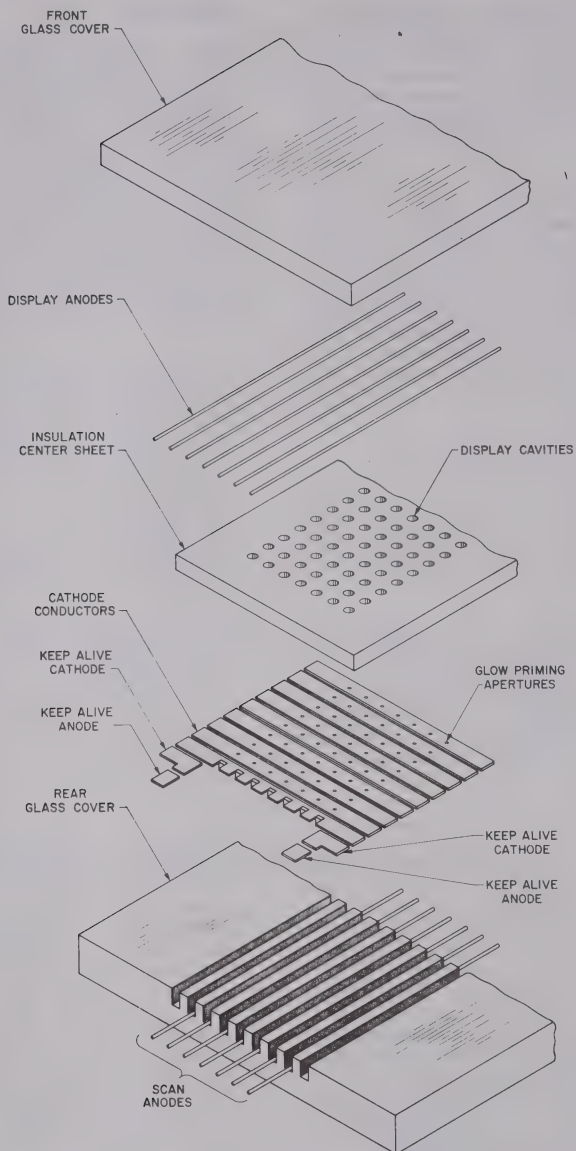

Figure 1.
Figure 1 is an exploded view of the left-hand section of a SELF-SCAN panel display. The panel can be thought of as having three basic sections: (1) The "glow scan" section which consists of the scan anodes and the rear side of the cathode strips, (2) The "glow priming" section which consists of tiny apertures in the cathode strips, and (3) The "glow display" section which consists of the display anodes, the center insulating sheet containing the display cavities and the front side of the cathode strips. This structure, with scan and display anode wires orthogonal to the cathodes, is hermetically sealed in a common envelope filled with a noble gas mixture composed primarily of neon.
The display anodes (these are the anodes located on the front side of the panel, refer to Figure 1) are coupled to the character generator through a level shifting circuit consisting of a drive transistor, a resistor, and 2 diodes. When the character generator indicates a dot is to be displayed, this circuit couples the display anode to the +250 volt power source through a limiting resistor. When the character generator indicates that a dot should not be displayed, the circuit clamps the display anode at +120 volts which is below the voltage necessary to either ionize or sustain ionization. When initiating a glow display dot, it is necessary to delay the display anode energization until after the glow scan has been transferred to that cathode and the metastables have diffused from the scan surface of the cathode to the viewing cavity. This delay, of approximately 15 μ sec, is achieved by using a capacitively coupled one-shot multivibrator to inhibit the anode drivers for this time period.